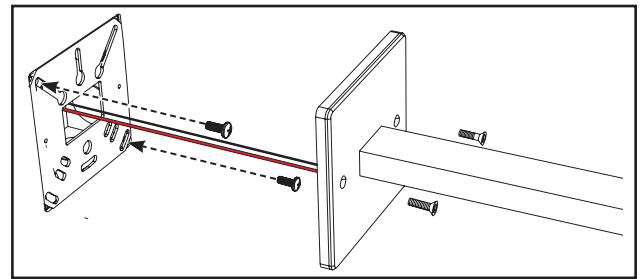

Figure 2.
4. Push all wiring and driver into the junction box. Keep line voltage and driver output leads as separate as possible. Place the mounting plate over the junction box and secure with two screws. (Figure 2.)